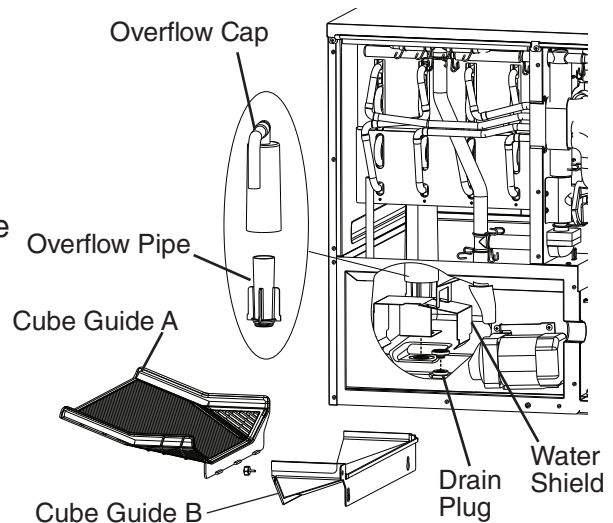

Fig. 15
- 7) Remove the insulation panel, then remove cube guide B and cube guide A. Next, remove the overflow cap, overflow pipe, water shield, and drain plug. See Fig. 15.